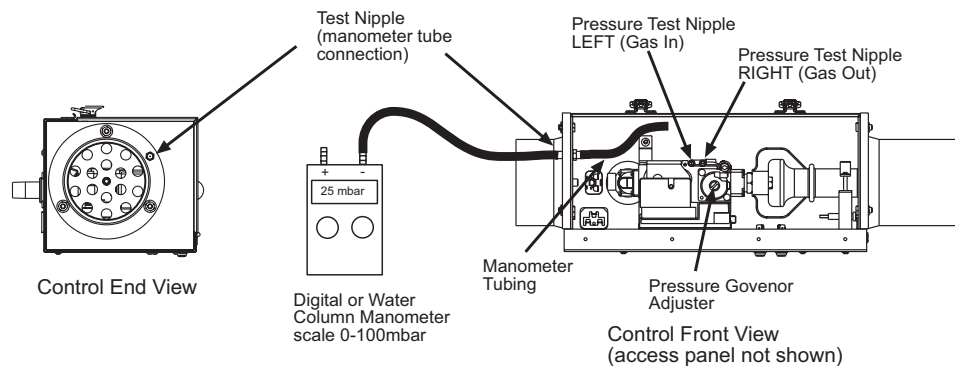

Fig. 31
- Connect a manometer to the test nipple protruding from the rear panel of the Control Box (adjacent to the Air Inlet Adaptor). See Fig. 31. Open the Control Box door after releasing the two toggle latches.
- Unscrew the sealing screw (two turns) of the LEFT (Gas IN) Control Valve test nipple and connect the free end of the manometer tube (permanently connected to the manometer test nipple inside the side panel of the control box) to this test nipple (See Fig. 31). Close the control box door and secure with the two toggle latches.
- Unscrew the sealing screw (two turns) of the RIGHT (Gas OUT) Control Valve test nipple and connect the free end of the manometer tube (permanently connected to the manometer test nipple inside the side panel of the control box) to this test nipple (See Fig. 31). Close the control box door and secure with the two toggle latches.